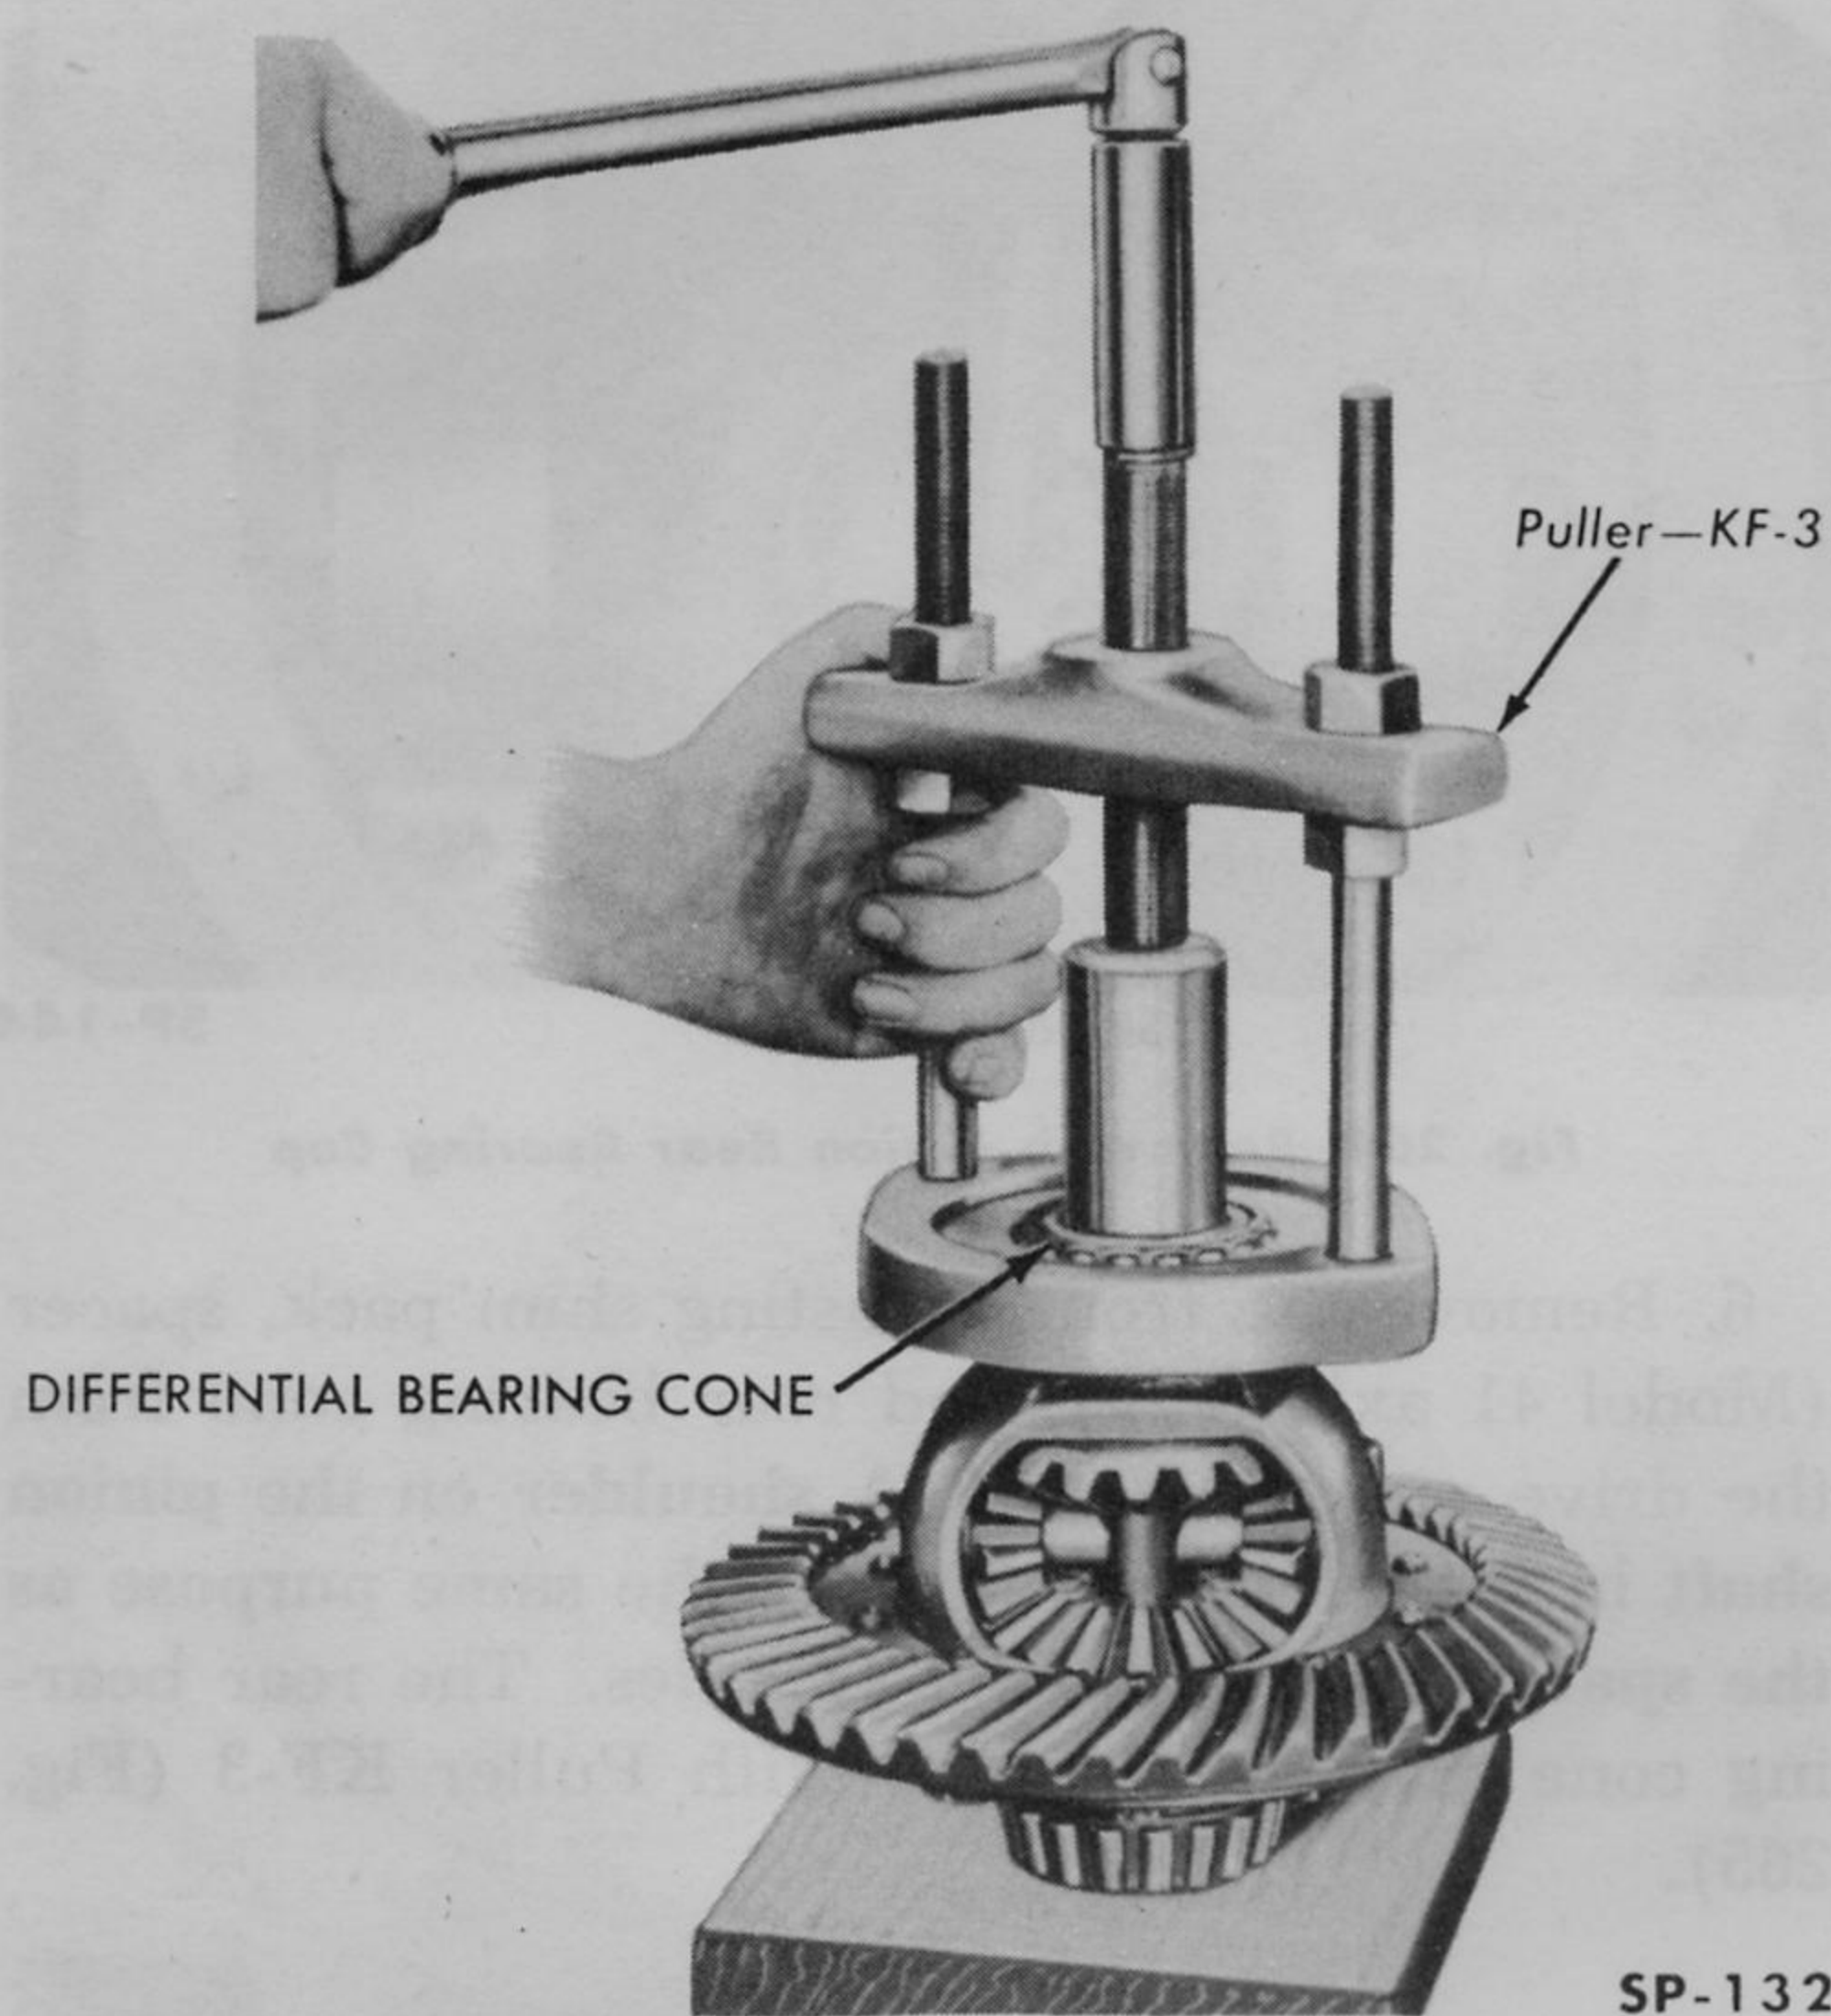

Fig. 266—Removing Differential Side Bearing Cone
1. Remove the differential side bearing cones using Puller KF-3 (Fig. 266). **NOTE: The differential bearing adjusting shim packs will be found between the side bearing cones and the differential case.** The total thickness of these shims should be